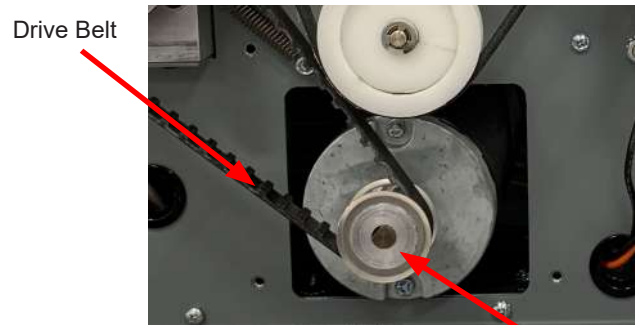

Fig. 49
9. Remove the drive belt from the drive pulley (Fig. 49).